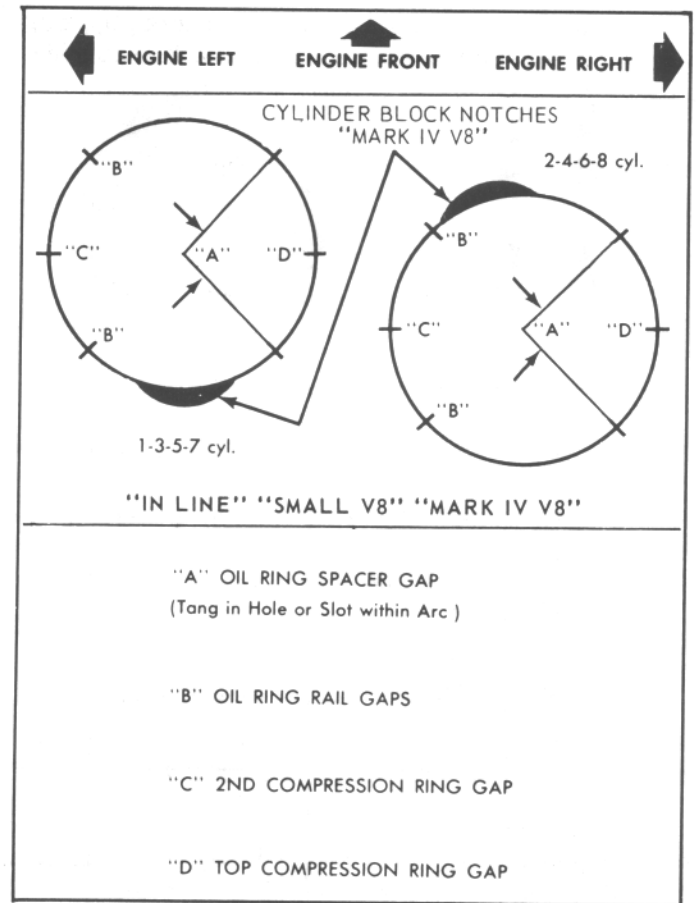

Fig. 80. Ring Gap Location
8. Install piston rings as follows (Fig. 80):